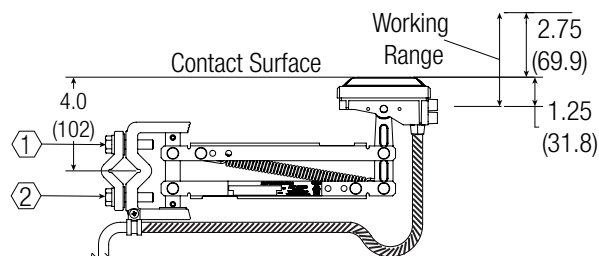

Figure: 17-1
17.0 XA-SL2-100S-1M Single Collector - Figure 17-1
1. Attach collector mounting bracket to a suitable support at the correct setting height (see Figs. 17-1 and 17-2).
5. For customer installed cable on the collectors, there must be 18" for 100 amp and 19.5" for 200 amp of cable length from the exit of the cable clamp to the entrance of the collector head. Reference the striped cable sections of **Figures 17-1, 17-2, 18-1, 18-2.**